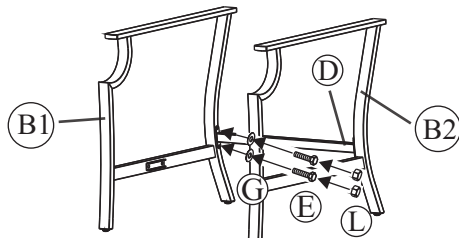

Fig. 1
Step 2: Attach the leg support to the chair legs (B1 & B2) by using the 1/4"x20mm bolts and washers as shown in Fig.1. Guide these bolts through the holes in the leg support, into pre-drilled holes in the chair legs. **Hand tighten only 2-3 turns.**